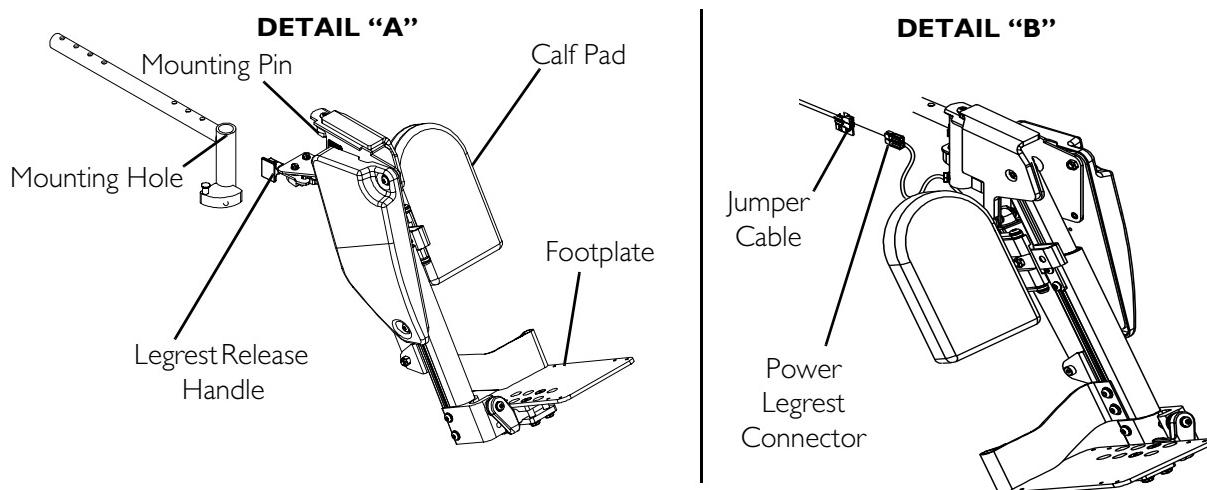

FIGURE 6.15 Installing/Removing/Adjusting the Power Elevating Legrests
NOTE: For this procedure, refer to FIGURE 6.15.
1. Turn power legrest to side (open footplate is perpendicular to wheelchair). Refer to Detail "A" of FIGURE 6.15.
2. Insert the mounting pin of power legrest into the mounting hole of the seat frame (Detail "A" of FIGURE 6.15).
5. Connect power legrest connector to jumper cable (Detail "B" of FIGURE 6.15).